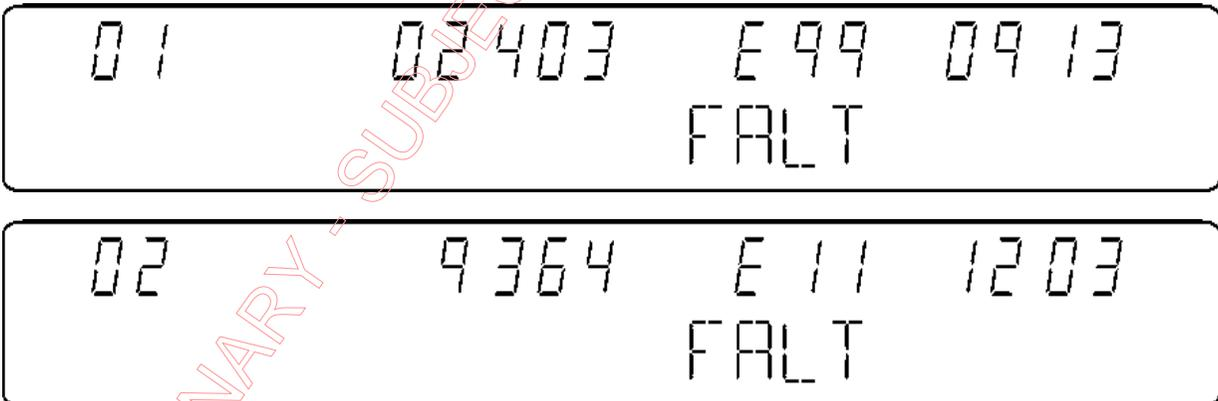

Figure 3-13 TYPICAL FAULT DISPLAY
Faults that occur in the unit are recorded in non-volatile memory, and are part of the installation mode. Only the last ten faults are recorded, and are shown one fault per page. Page (1) shows the most recent fault. Page (2) shows the next most recent fault and so forth. If less than 10 faults exist, then the fields for the time and fault code are blank. The fault type which is in the active frequency area shows the type of fault that has occurred, and the fault code shows where in the software the fault occurred. **Figure 3-13** and **Table 3-5** show the display while in fault reporting: